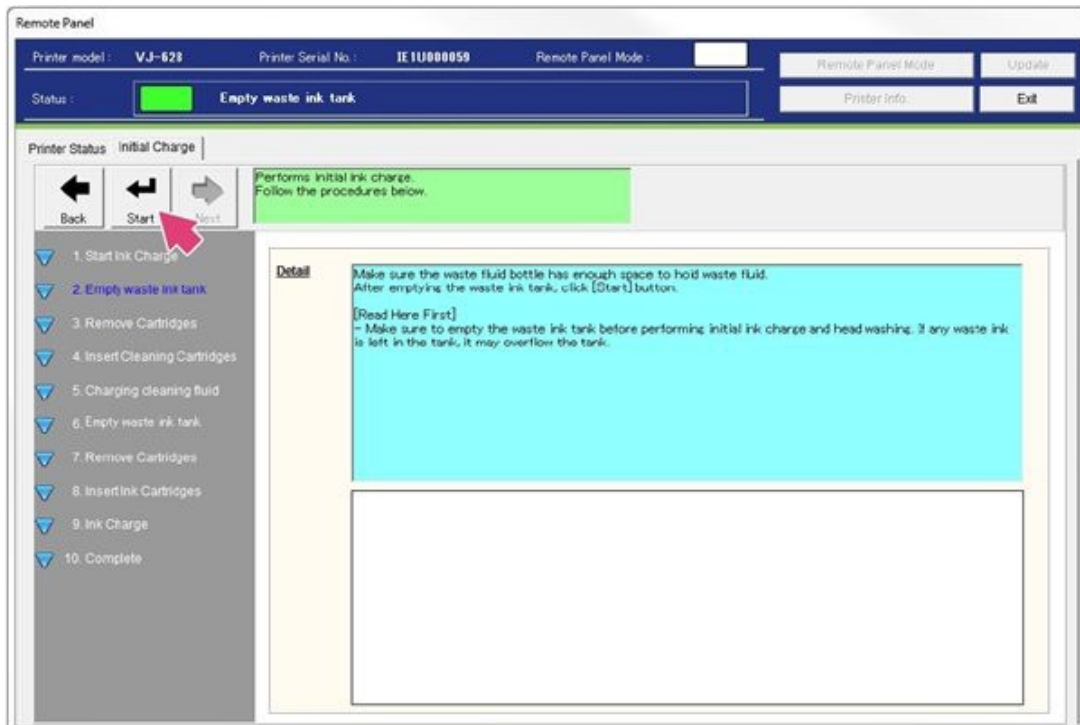

Figure 53
40. Make sure the waste tank is empty; then select **Start**. See Figure 53.